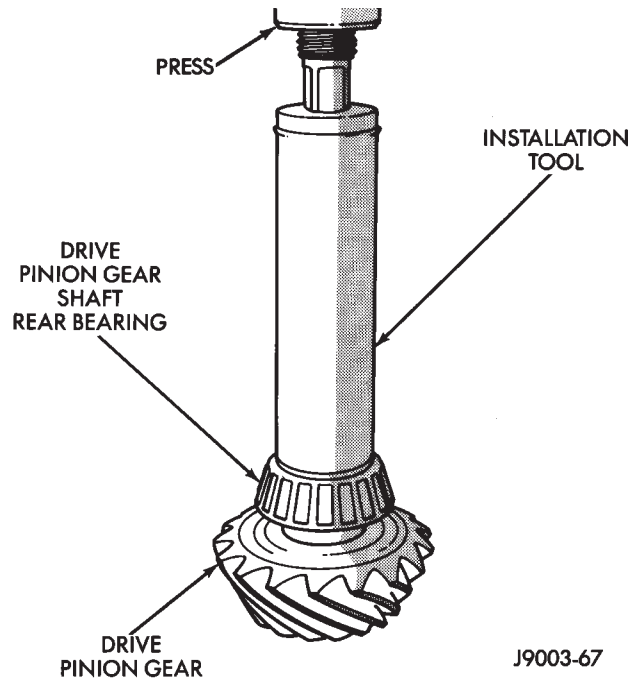

Fig. 32 Shaft Rear Bearing Installation
(4) Install the rear bearing (and slinger if used) on the pinion gear with Installer W-262 (Fig. 32).